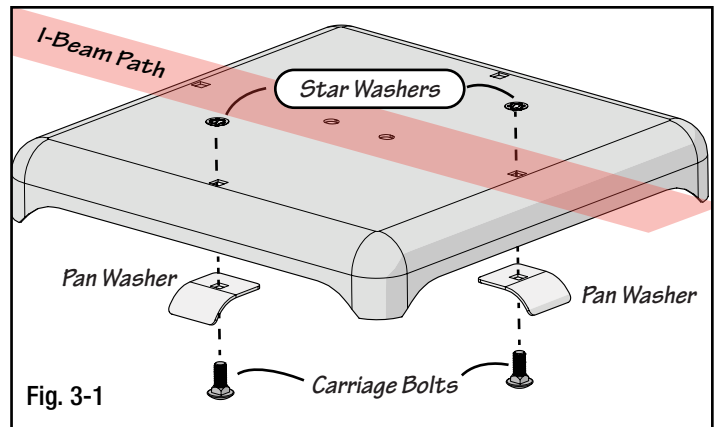

Fig. 3-1
- Stand the ground pad on its side. Slide a carriage bolts through the pan washers passing through the ground pad as shown right in Fig 3-1.
- Attach two star washers over the carriage bolts on top of the ground pan, securing both bolts in place as in Fig 3-1.